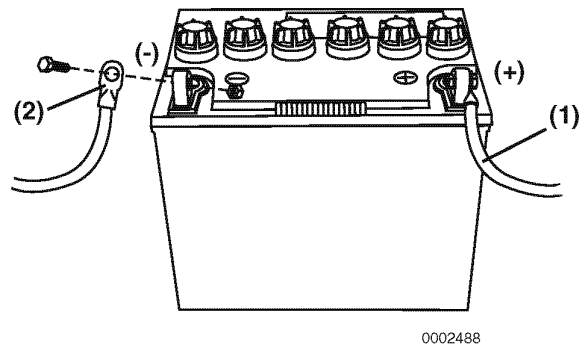

Figure 4-28
3. When connecting cables to battery connect the positive (+) cable (**Figure 4-28, (1)**) first. **CAUTION!** When you install a battery, **ALWAYS** use correct polarity when you connect battery cables to the battery. **ALWAYS** make sure the battery terminals are clean and tight.
4. Connect the negative (-) cable (**Figure 4-28, (2)**) to the battery last.